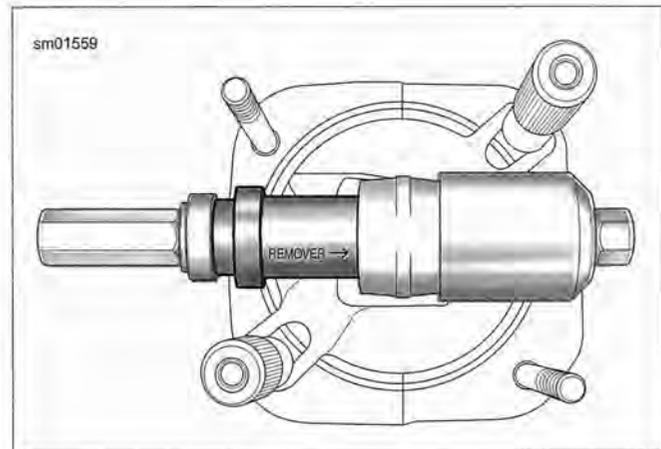

Figure 3-85. Remover Stackup. Use Remover Side Of Remover/Installer
- a. See Figure 3-85. Slide remover side of remover/installer onto bolt. The driver is stamped to verify proper orientation.